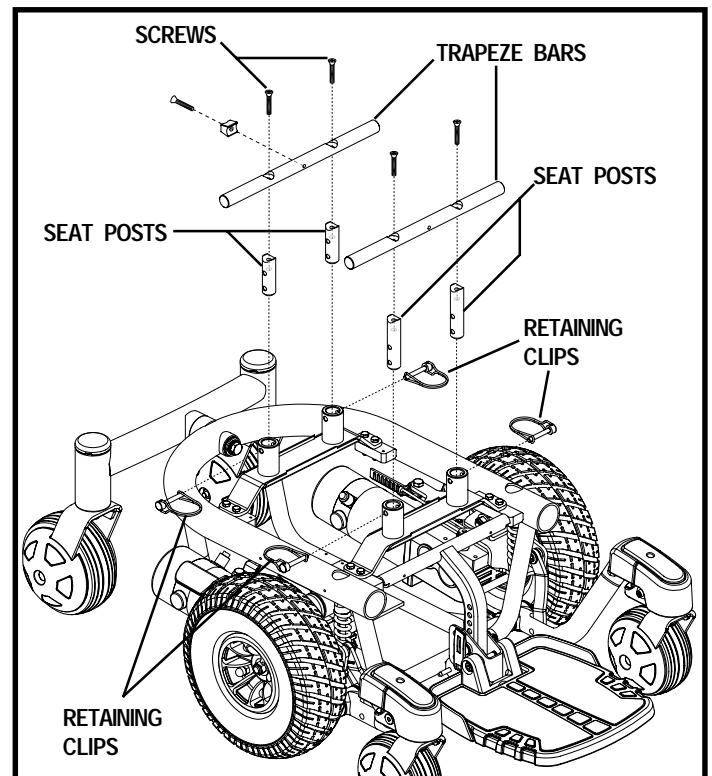

Figure 14. Seat Height Adjustment - Trapeze Bars
7. Loosen the screws that attach the trapeze bars to the seat posts. See figure 14.
8. Remove the retaining clips that secure the seat posts to the power base. See figure 14.